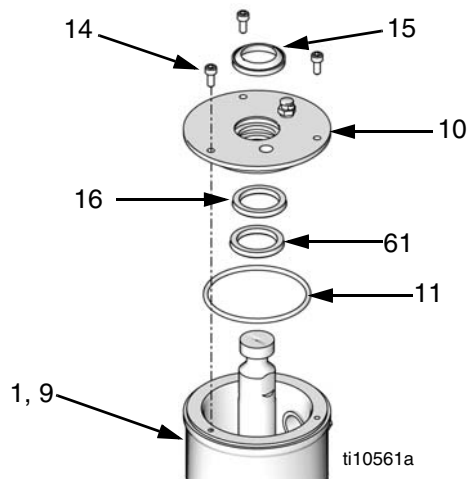

FIG. 31
26. Install new o-ring (11), wet cup wiper (15), seal (16), and snap ring (61) into wet cup cover (10). See FIG. 31.
27. Carefully slide wet cup cover (10) over displacement rod. Line up holes in cover and wet cup. Insert screws (14). Use a hex head screwdriver to tighten screws. See FIG. 31.